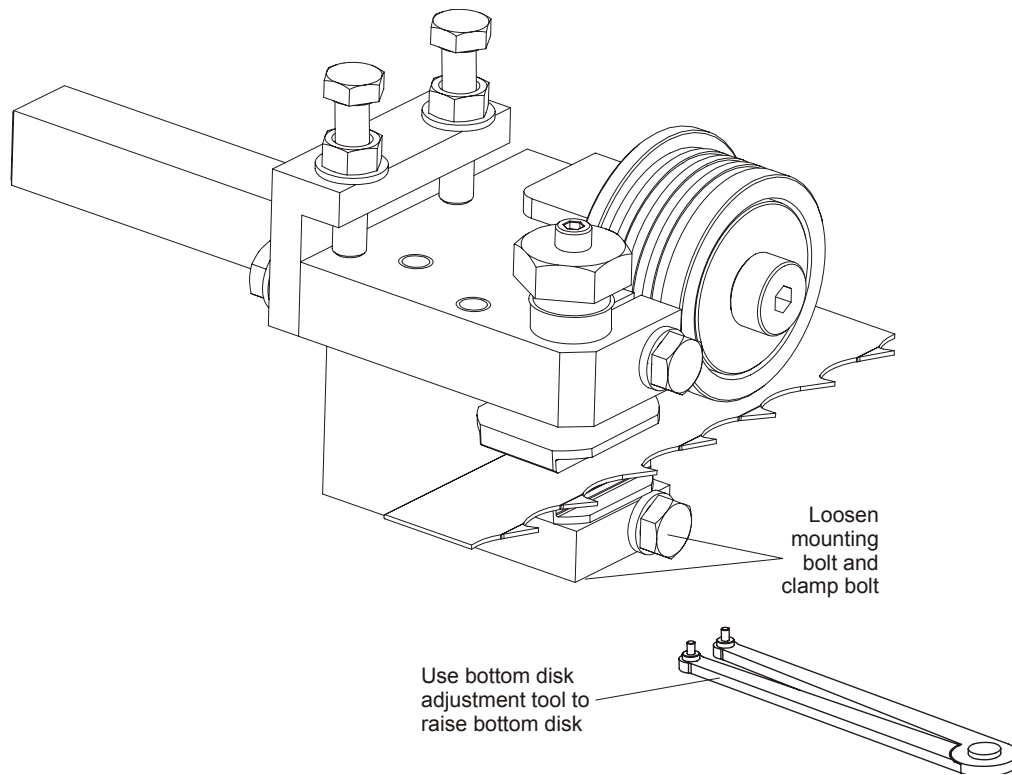

FIG. 5-1
**See Figure 5-1.** To adjust the disks up, loosen the bottom guide disk mounting bolt and clamp bolt. Use the provided adjustment tool. to raise bottom disk Retighten the bottom disk mounting bolt and clamp bolt. See Section: "See Section"